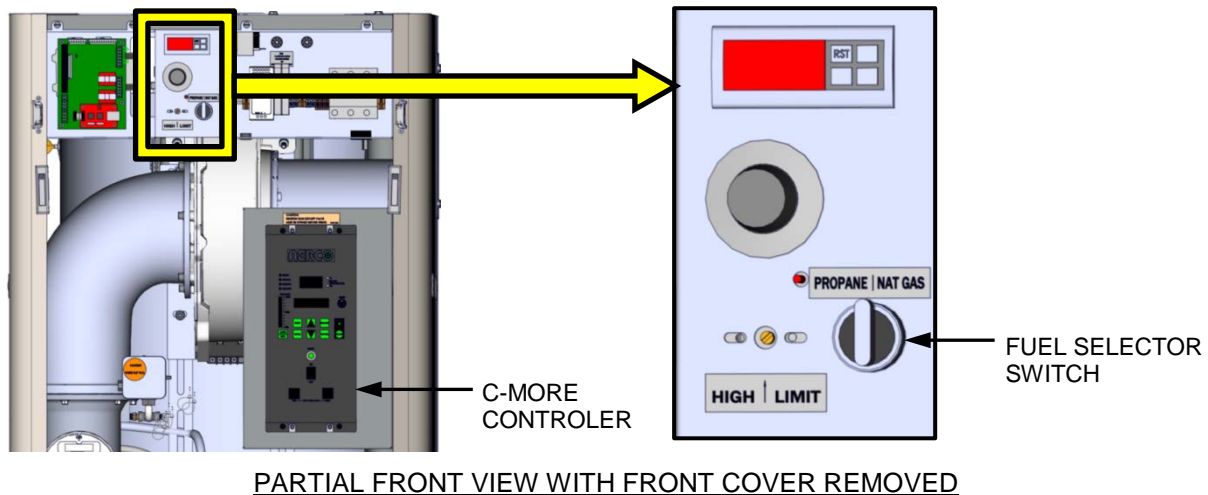

Figure 4-6: Dual-Fuel Switchover Location
4. Refer to Figure 4-6 and locate the Fuel Selector Switch on the unit, behind the front door.
4. Refer to Figure 4-6 and locate the Fuel Selector Switch on the front of the unit.